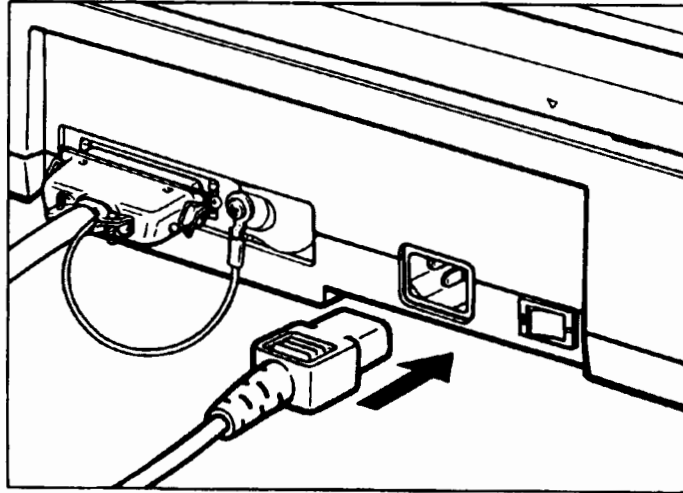

Figure 4-8. Connecting the Power Cord to the Scanner
1. Attach the power cord to the scanner. See figure 4-8.